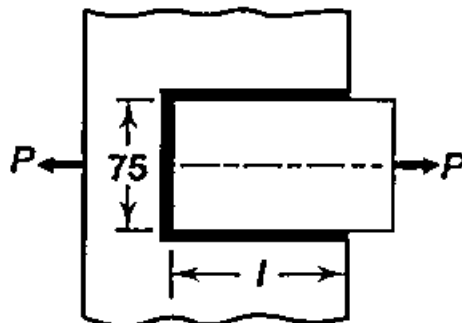

Fig:4
4. (a) A plate, 75 mm wide and 10 mm thick, is joined with another steel plate by means of single transverse and double parallel fillet welds, as shown in Fig.4. The joint is subjected to a maximum tensile force of 110 kN . The permissible tensile and shear stresses in the weld material are 140 and 100 N/mm^2 respectively. Determine the required length of each parallel fillet weld.